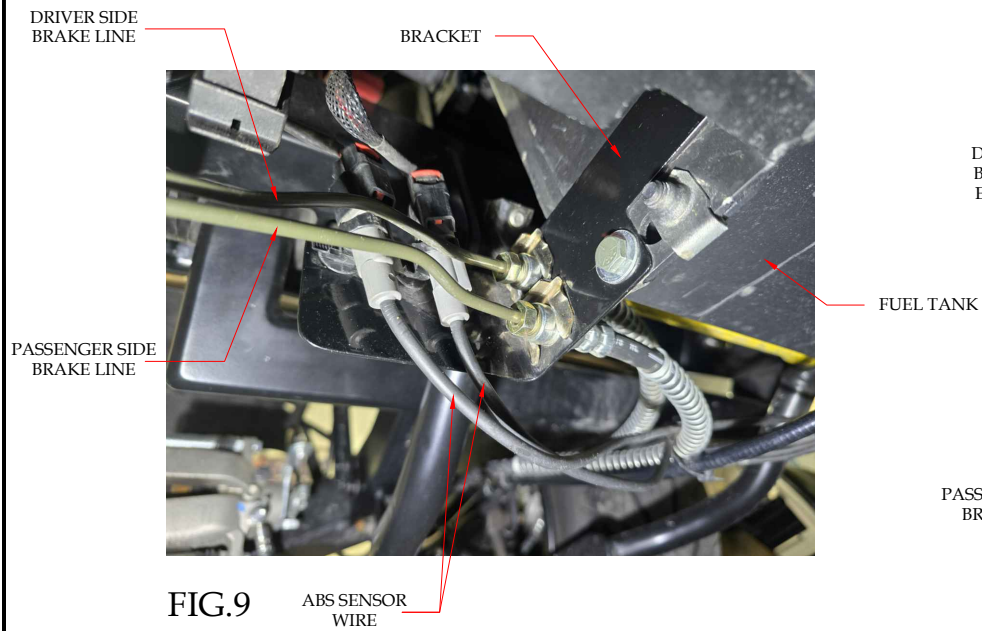

FIG.9
17. Secure the long flexible brake lines to the support bracket using the included stainless-steel clips, as shown in FIG.9.